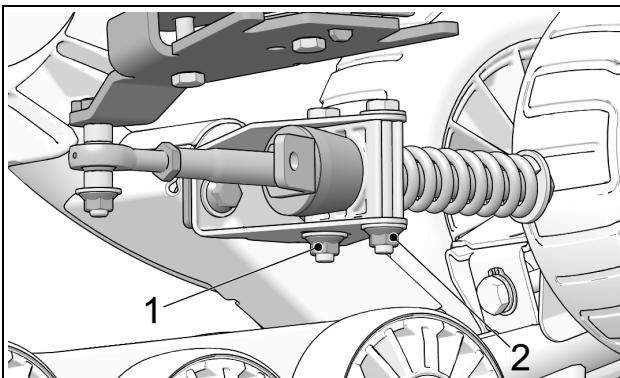

Figure 8
- Re-tighten anti-rotation bracket bolts (1) and (2) to 50 N·m [37 lb-ft] of torque. See Figure 8.